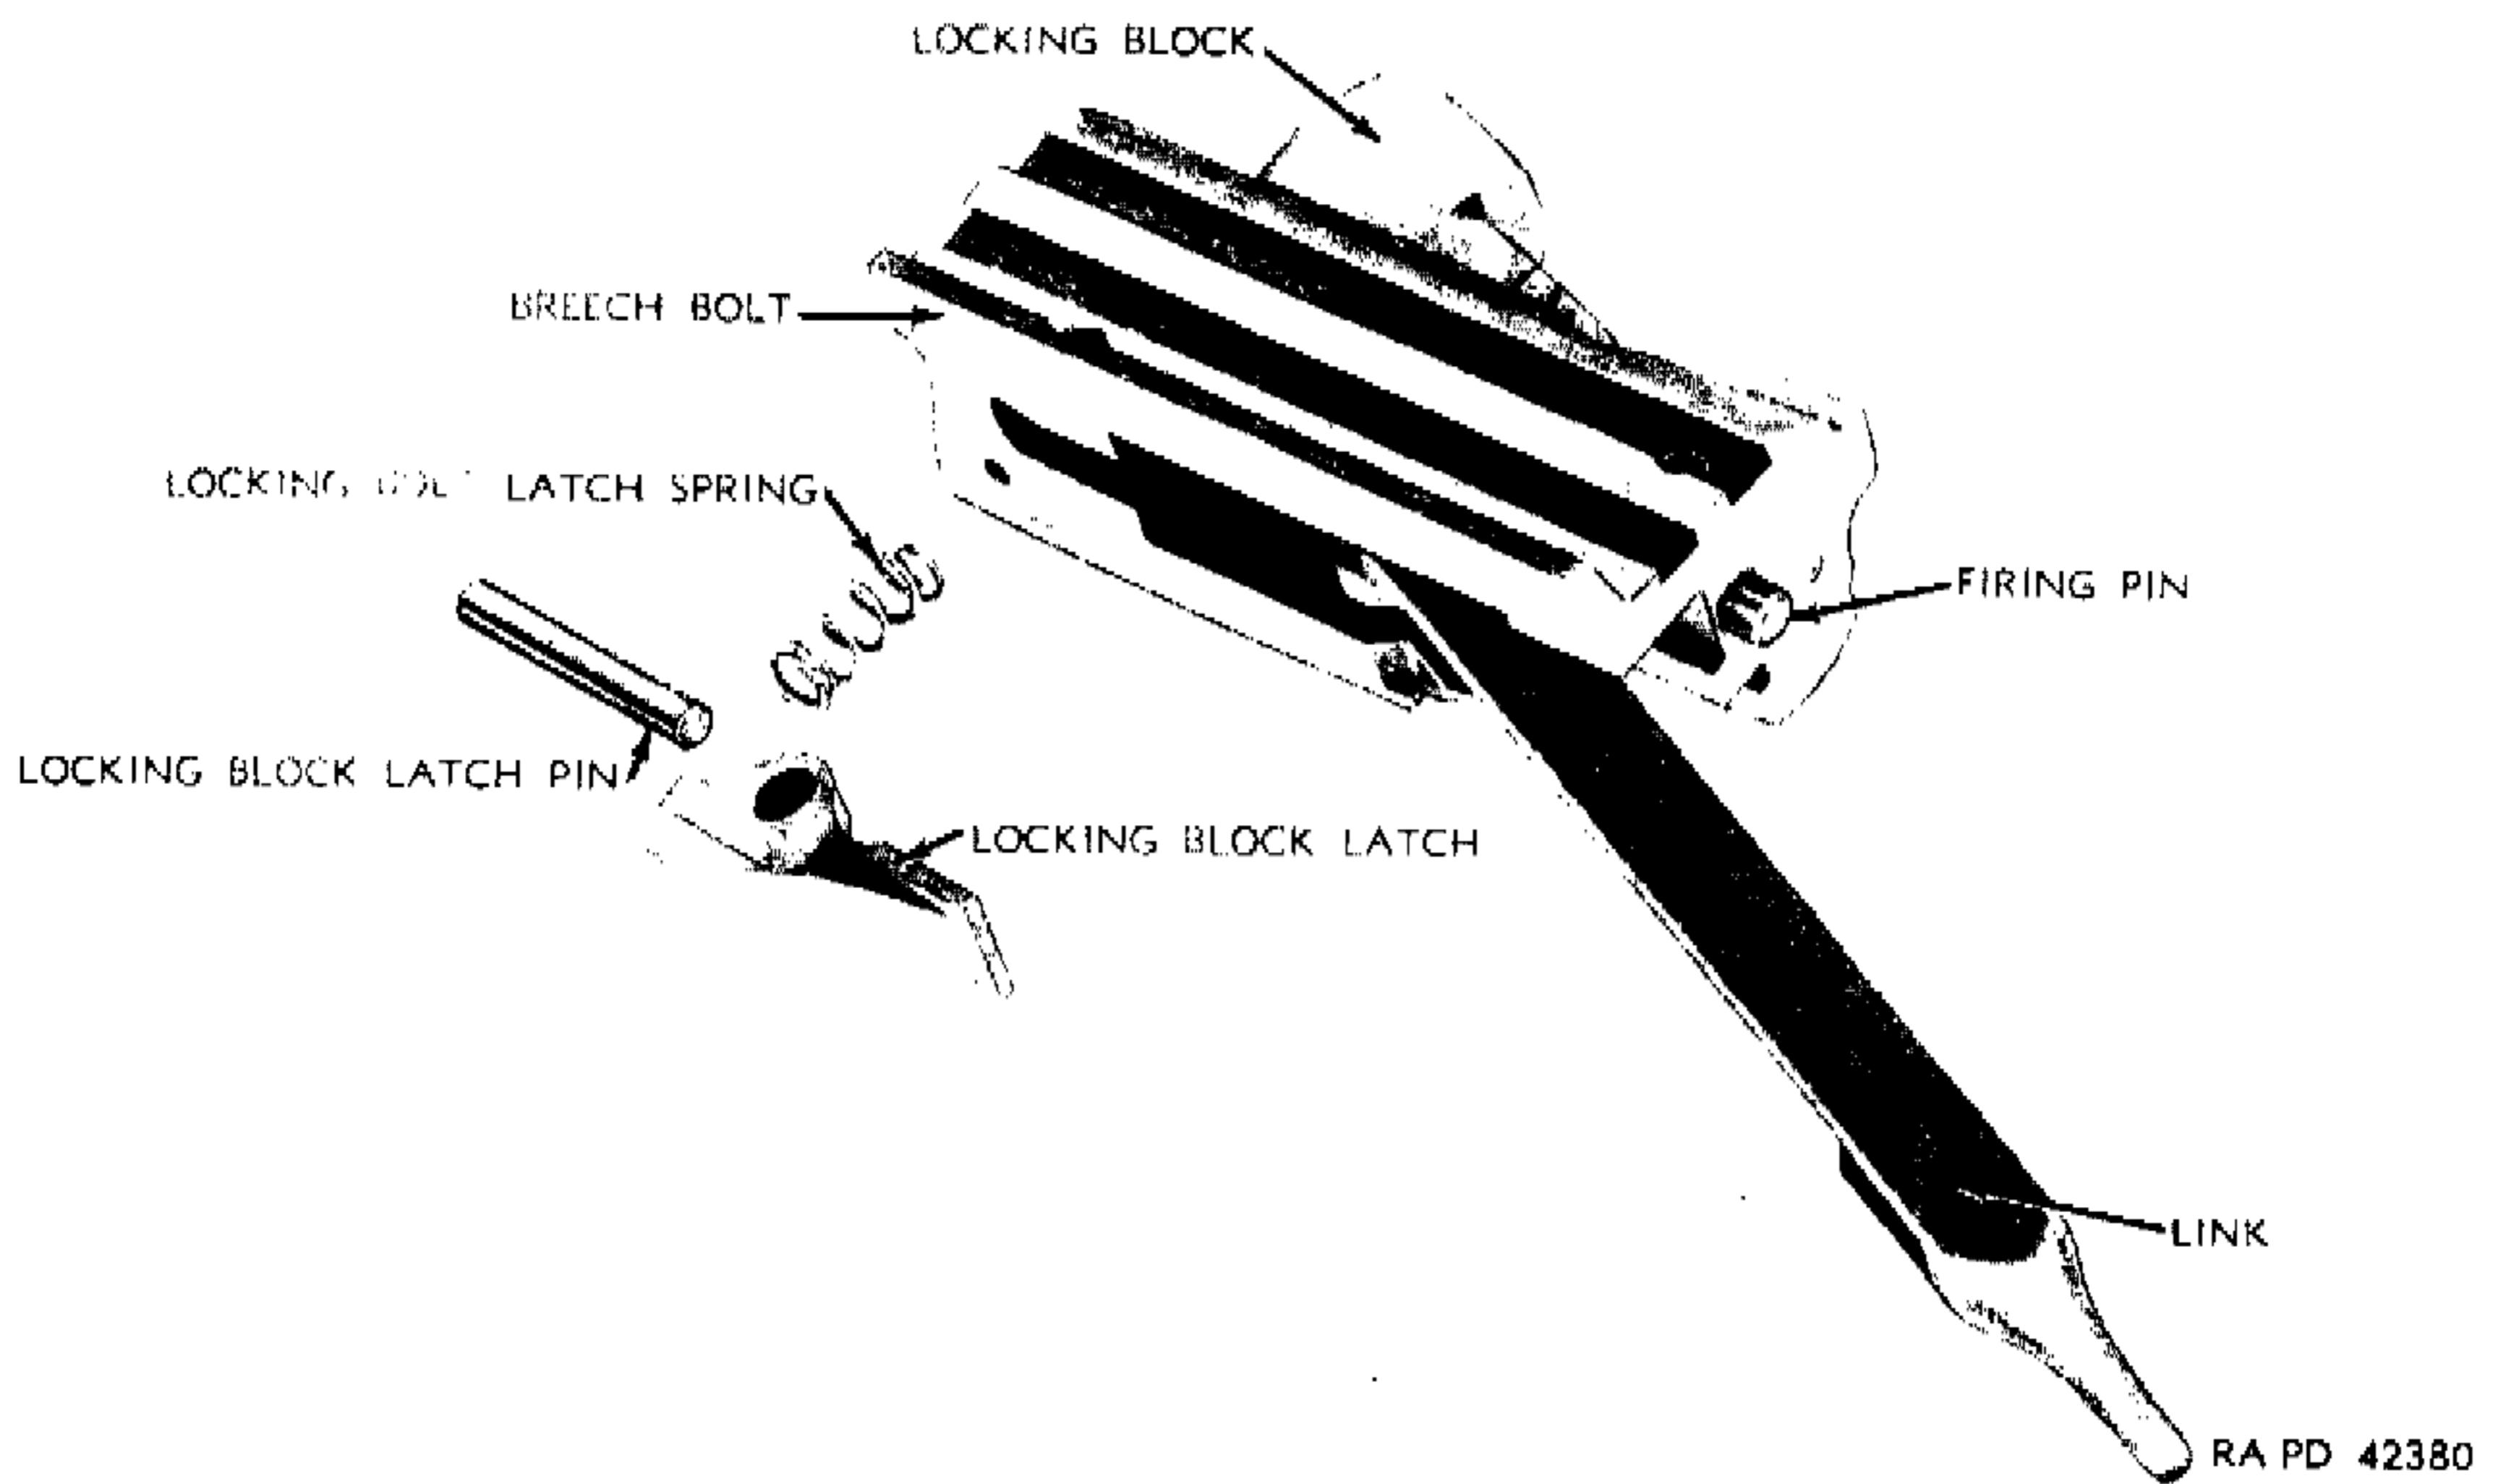

Figure 102—Breech Bolt Group—Rear, Bottom and Left Side View—Locking Block Latch Disassembled—Remington Shotgun M11—Sportsman
(9) The breech bolt (fig. 102) functions in guideways in the inner walls of the receiver, and houses the firing pin which operates longitudinally through the length of the bolt and the locking block, and is retracted into the bolt by the firing pin spring. The extractor, positioned in the forward right face of the bolt, is of the claw type and spring-actuated. The locking block functions radially in guideways in the breech bolt and is positioned by the firing pin which passes through it and the breech bolt. To the lower rear end of the locking block, the link is pivoted, by which the block is raised to lock the breech bolt and barrel together when in the forward position. The firing pin is positioned by the firing pin stop pin passing laterally through the bolt and a groove in the firing pin. In the under side of the breech bolt the locking block latch is pivoted and actuated by a coil spring positioned between the latch and the bolt. The latch blocks the lower end of the locking block from forward movement until levered up by the link as the rear end of the link rises at the end of the forward movement. The operating slide, by which the breech bolt is manually retracted to load and cock the gun, is positioned in a groove in the right side of the bolt and reciprocates with it when the gun functions. The slide also functions with the link and carrier dog to unlock the breech bolt and barrel.